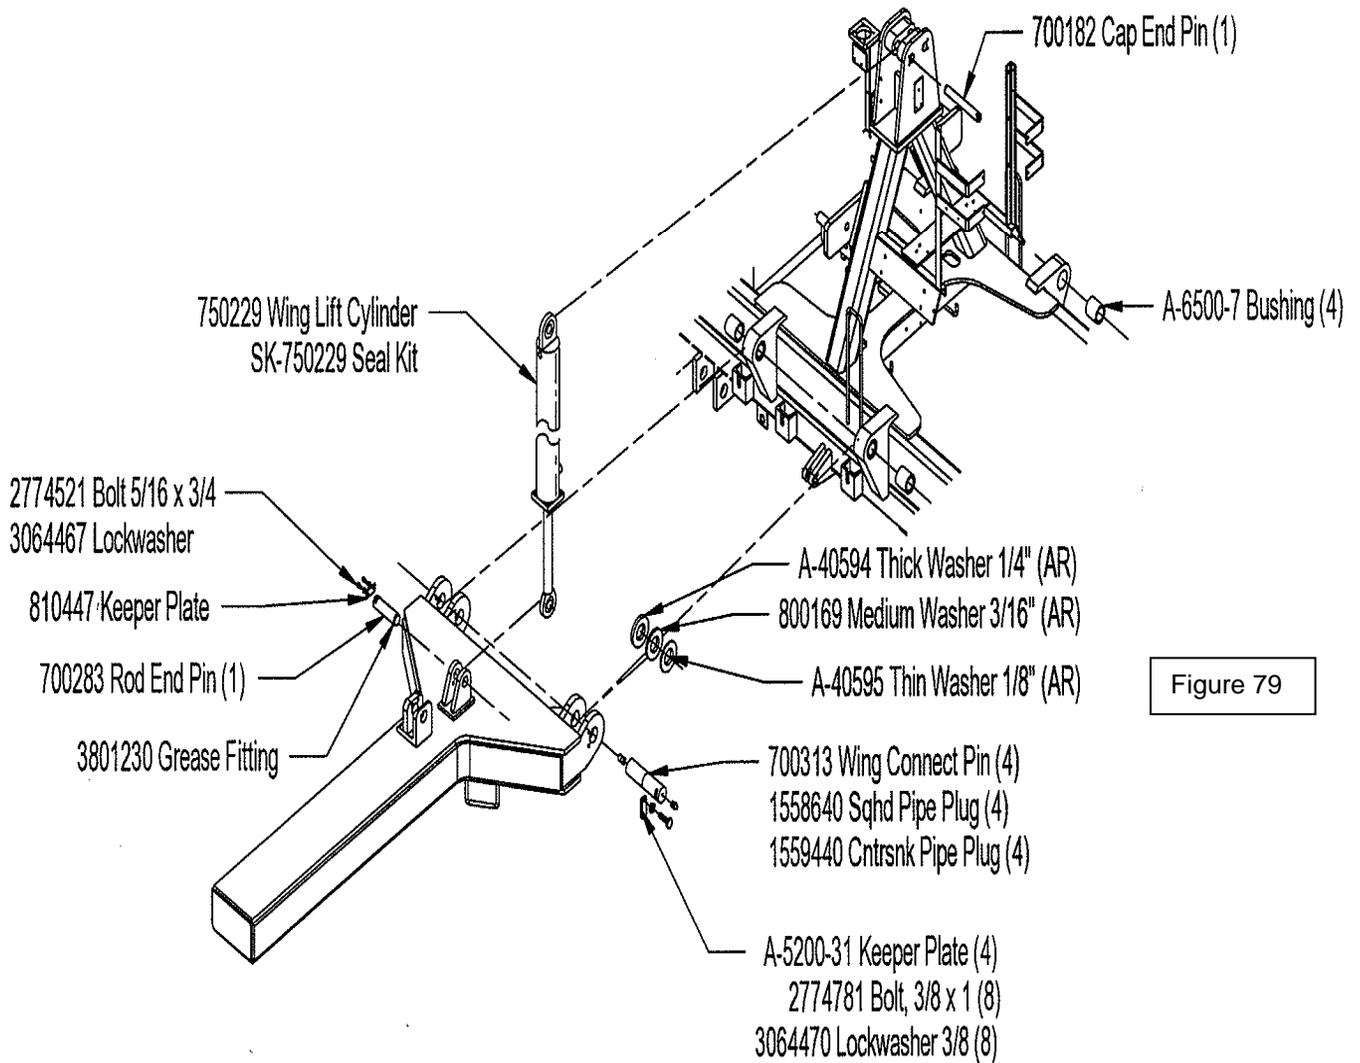

Figure 79
11. Remove left ballast wing attaching the pins (see figures 79).